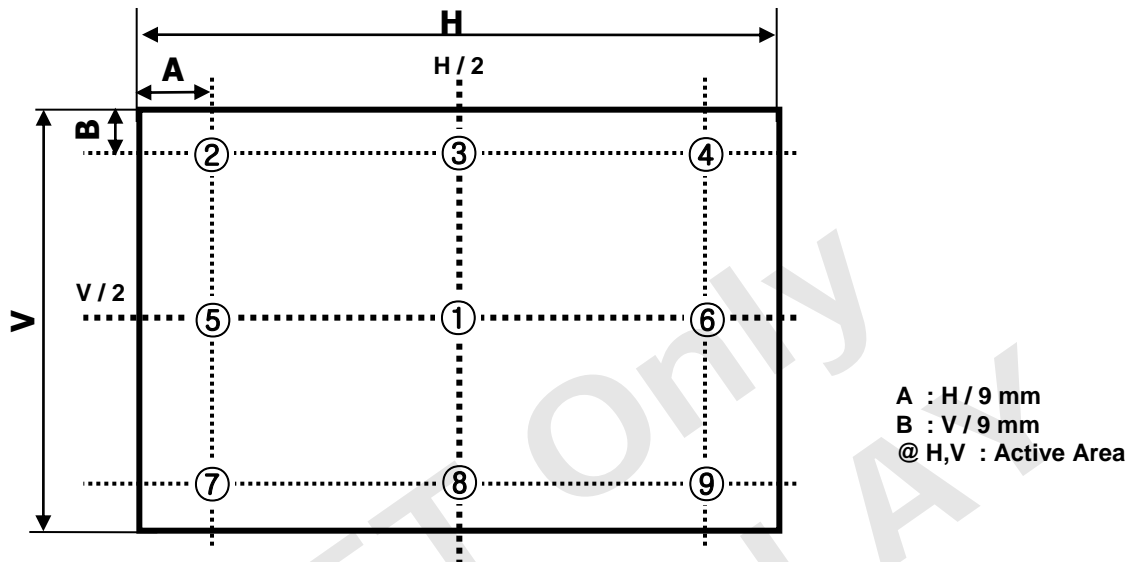

FIG. 2 9 Points for Luminance Measure
- Surface luminance are determined after the unit has been 'ON' and 1 Hour after lighting the backlight in a dark environment at  $25 \pm 2^\circ\text{C}$ . Surface luminance is the luminance value at center 1-point across the LCD surface 50cm from the surface with all pixels displaying white. For more information see the FIG. 2.
For more information, see the FIG. 2.